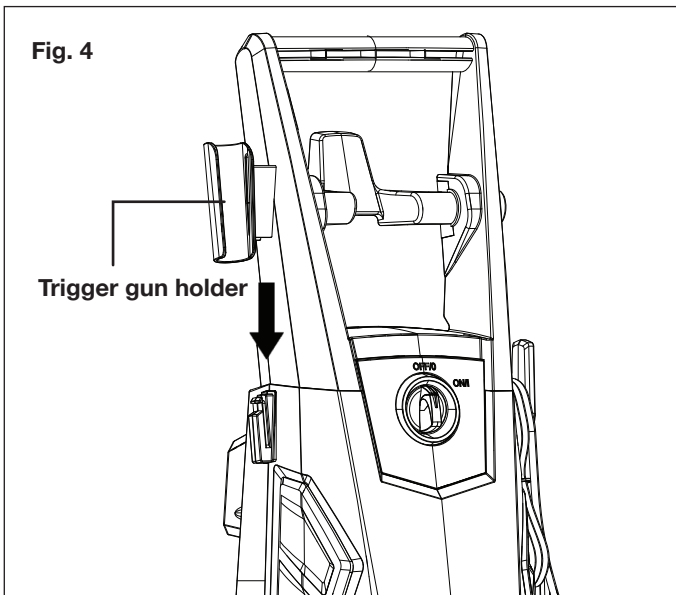

Fig. 4
4. Slide the trigger gun holder in position (Fig. 4).